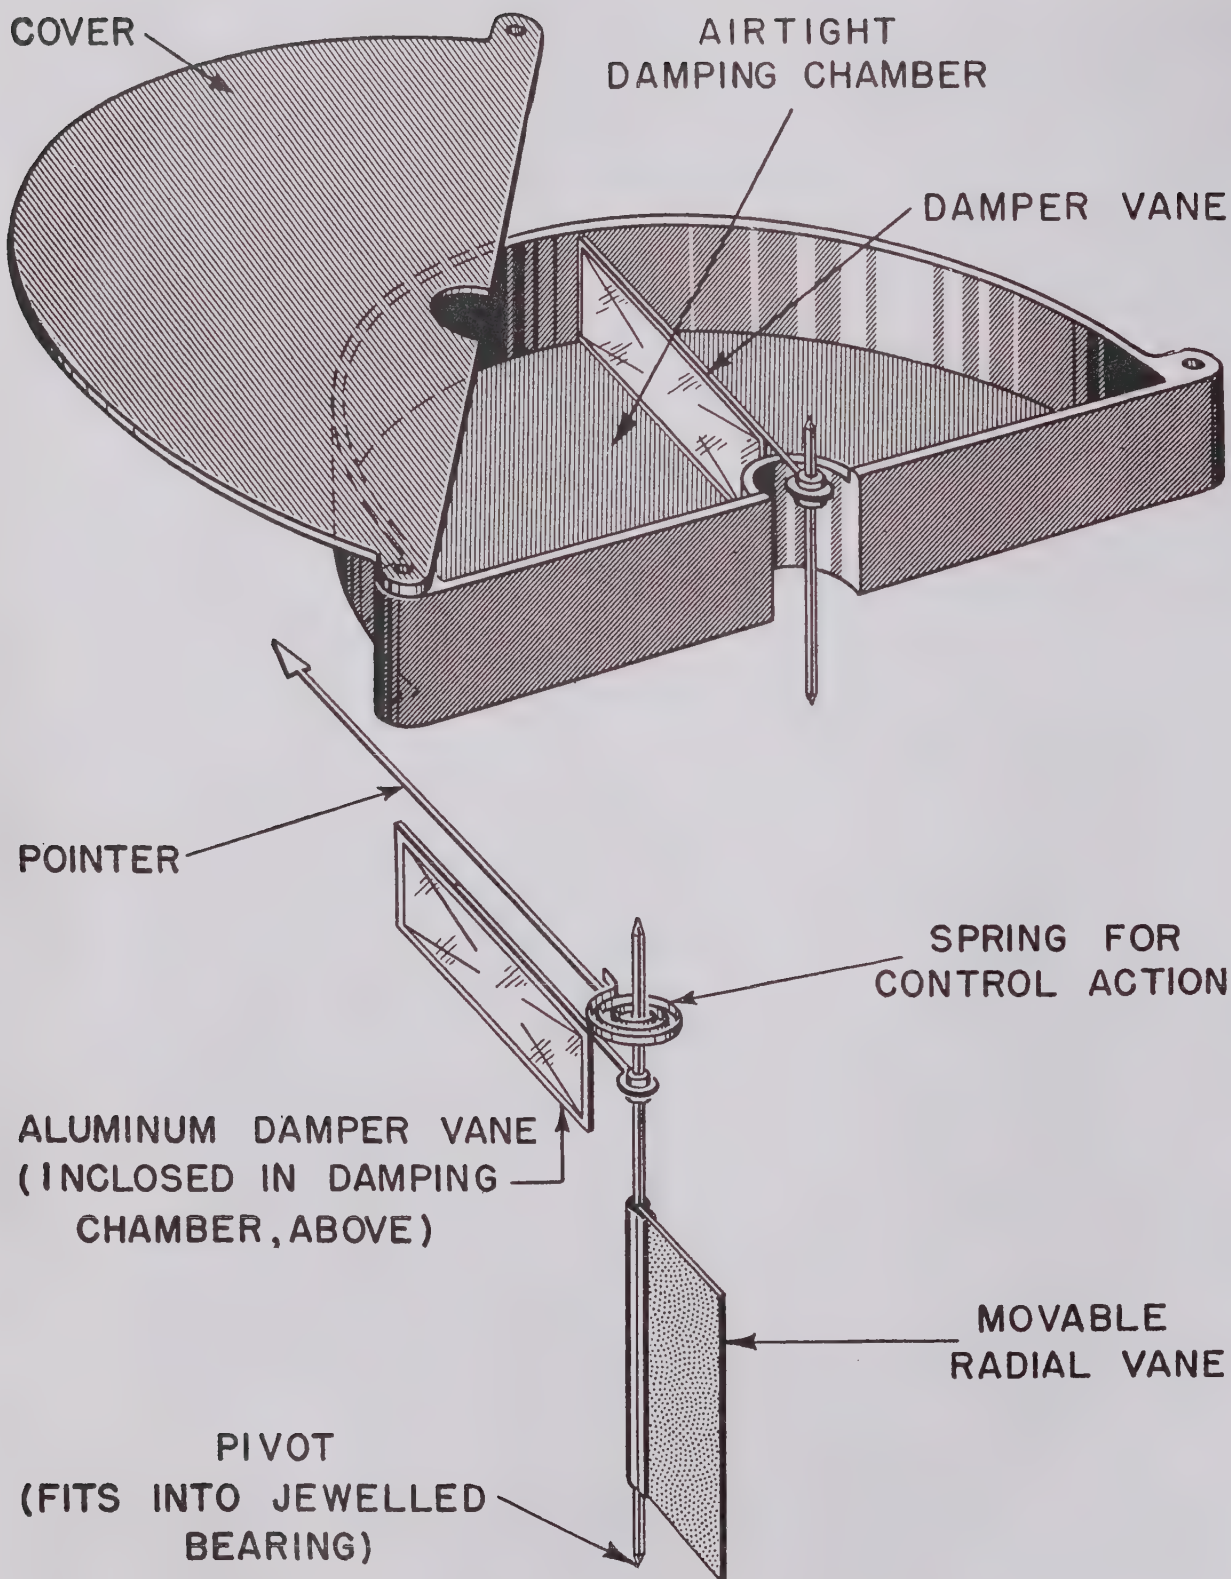

Figure 22. Air-damping system used in moving-vane meters.
b. CONTROL SYSTEM. Both radial-vane and concentric-vane meters have springs to provide control action (fig. 22). The springs provide the correct amount of opposition to the swing of the movable vane. They also serve to bring the pointer back to 0 when the meter is removed from the circuit. The needle registers at the point where the repelling force of the vanes equals the counterpull of the springs.
c. DAMPING SYSTEM. In small radial-vane meters, the coil is inclosed in a metal container and the moving vane fits snugly in the space. As the moving vane is repelled, it compresses the air in front of it and its speed of travel to the indicating position is decreased. When the needle comes to a stop, there is no further damping or braking action. In larger meters, a light aluminum damping vane is attached to the same rod as the pointer and moving vane (fig. 22). The damper vane then is inclosed in a separate, air-tight damping chamber and the damping action is very efficient.